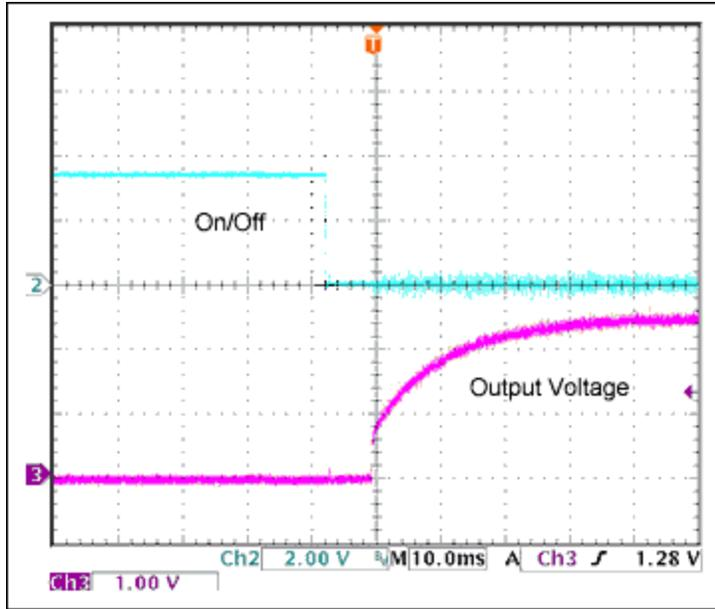

Figure 2. Output voltage at startup using the ON/OFF feature of 8541.
An alternate method used in the application circuits for setting the over-voltage and under-voltage trip points is demonstrated in **Figure 2**. Use 36.5kΩ for the bottom resistor (R3). R2 and R1 are calculated as follows:
3. Output voltage at startup (Figure 2) employing the ON/OFF feature of the MAX8541.